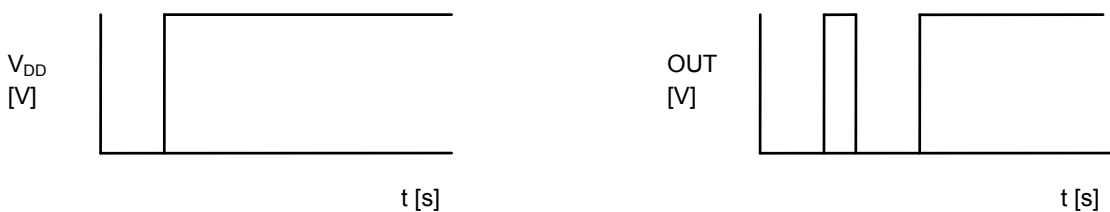

Figure 29
**Remark** When the power rises sharply, the output may instantaneously be set to the "H" level due to the IC's indefinite area (the output voltage is indefinite when it is the IC's minimum operation voltage or less), as seen in **Figure 29**.